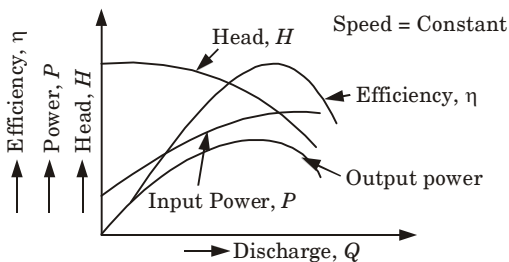

Fig. 5.19.2.
2. Different operating characteristics curves are shown in Fig. 5.19.2.